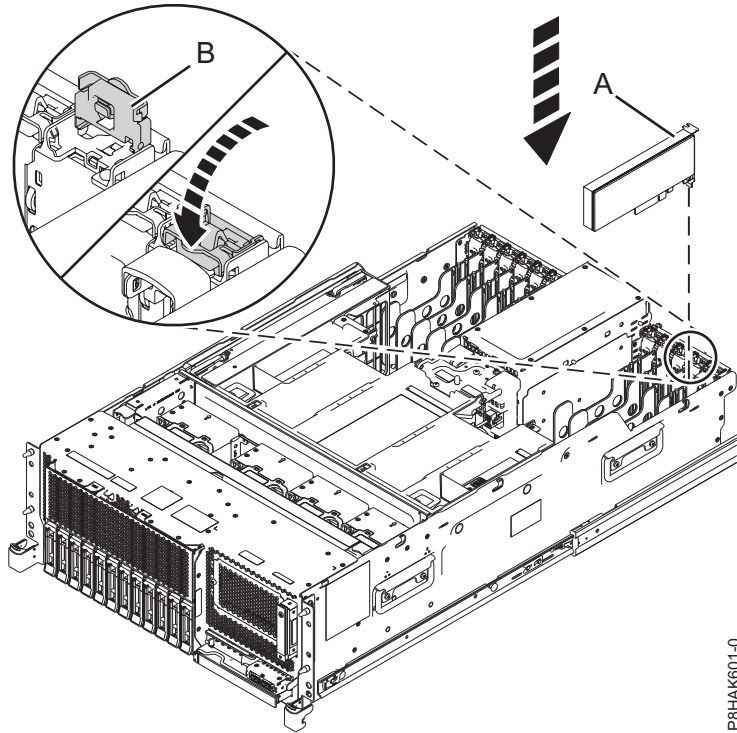
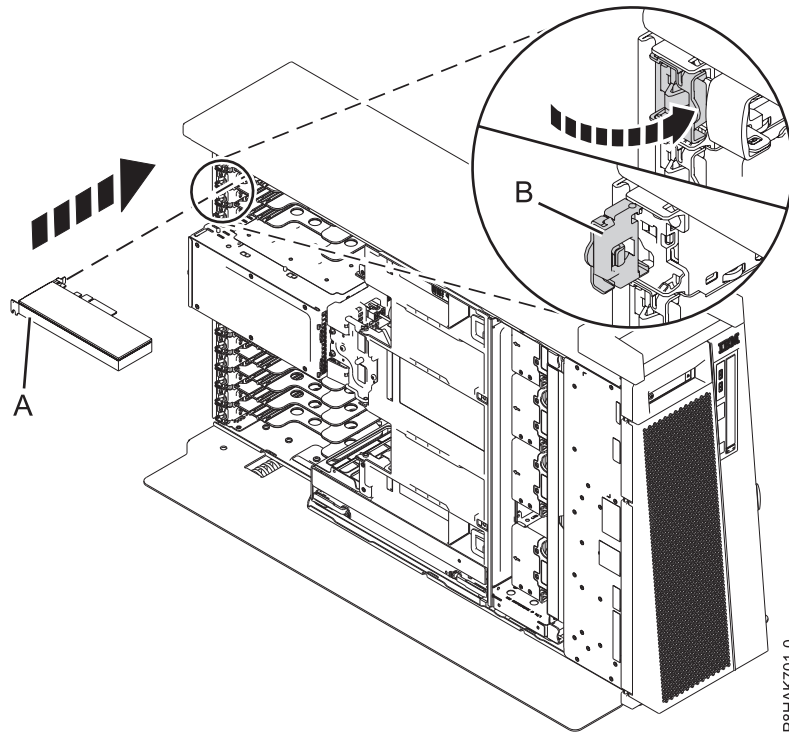

Figure 43. Installing or replacing a PCIe adapter in a rack-mounted system
Figure 44. Installing or replacing a PCIe adapter in a stand-alone 8286-41A system
5. If the adapter latch (B) at the target slot is not already in the open position, pull the latch into the open position by rotating the latch outwards from its clip on the back of the system, as shown in Figure 43 on page 46 and Figure 44 on page 46.
7. Carefully grasp the adapter by its top edge or tailstock, and align the adapter with the slot and its connector on the system backplane (A), as shown in Figure 43 on page 46 and Figure 44 on page 46.
10. To lock the adapter in its slot, rotate the adapter latch (**B**) in the direction that is shown in Figure 43 on page 46 and Figure 44 on page 46.